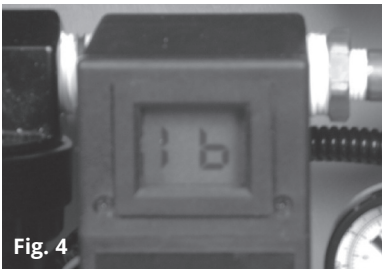

Fig. 4
To replace the 9-volt battery, remove the panel cover from the front of the CO monitor. Lift it off from either the left or right side. If a 9-volt battery is being used to power the monitor and the battery power becomes too low, the monitor will indicate low battery (LB) on the display to indicate it is time to change the battery (Figure 4).